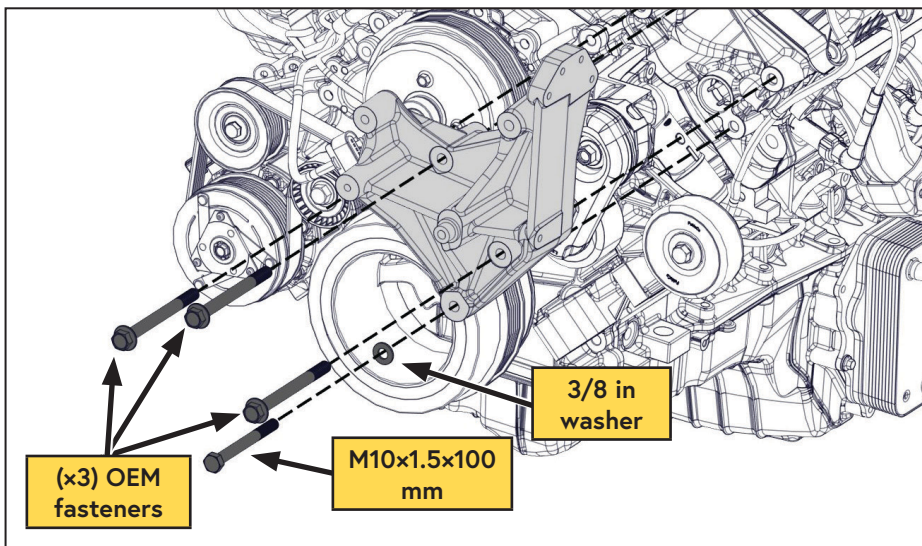

Figure 12 — Install main bracket
- Using (x3) of the OEM fasteners, and the supplied bolt and washer, install the VMAC main bracket (Figure 12).